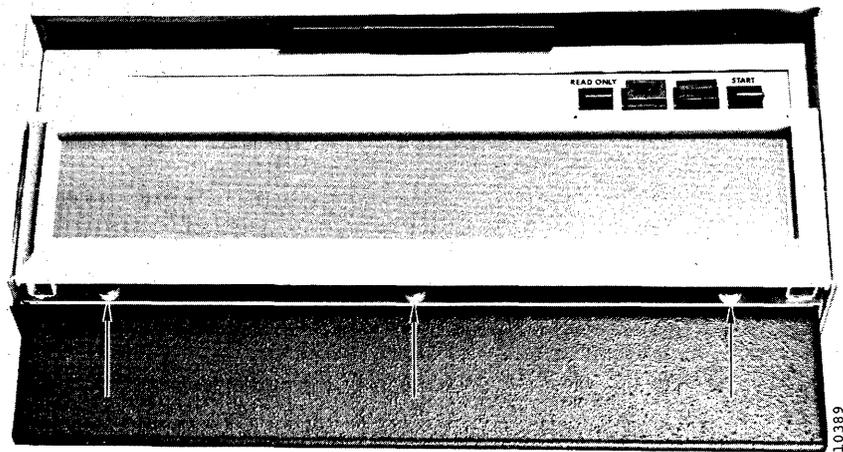

Figure 1-5. Front Cover Thumbwheel Nut Locations
1. The front cover of the unit is removed by unscrewing the three thumbwheel nuts underneath the front-end bezel (Figure 1-5) and then pulling the cover straight forward until clear of the unit.